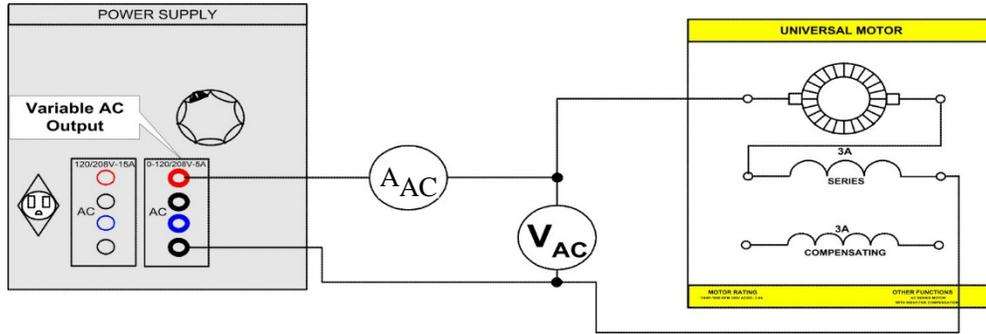

FIGURE 8.22
Step 22: Eliminate the compensating coil winding by reconnecting your circuit as shown in Figure 8.22.
- b) Reconnect your circuit for AC operation as shown in Figure 8.22. Short out the compensating coil by connecting a lead directly across its terminals.